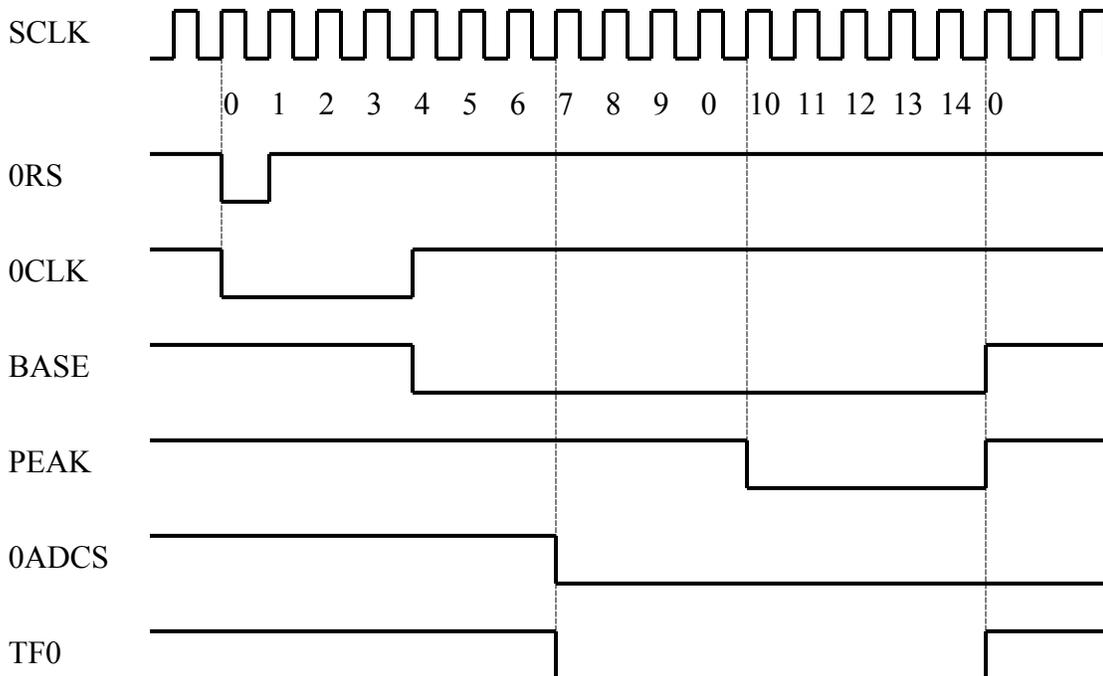

Fig. 4. Sequence of signals during the CCD data conversion
- The timer begins to produce a sequence of signals (see Fig. 4) controlling the CCD sensors, correlated double sampling (CDS) circuitry, and ADC: